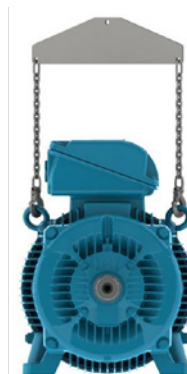

Figure 4.5 – Use of a spreader beam for lifting.
- For motors fitted with inclined eyebolts, as shown in Figure 4.5, the use of a spreader beam is required for maintaining the lifting elements (chain or rope) in the vertical position and thus preventing damage to the motor surface.
To place motors fitted with eyebolts (see Figure 4.5), to the vertical position, proceed as follows: